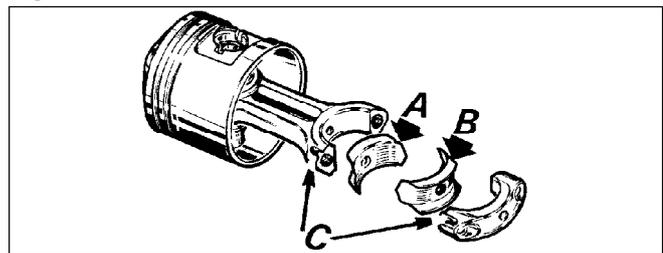

Fig. 12
- After having assembled the piston on the conrod, ensure that the steel bearing halves match and insert on the conrod and cap, ensuring that the two bearing shells are correctly located. Ensure that the alignment marks on the conrod cap and conrod are matched. (Fig 12).